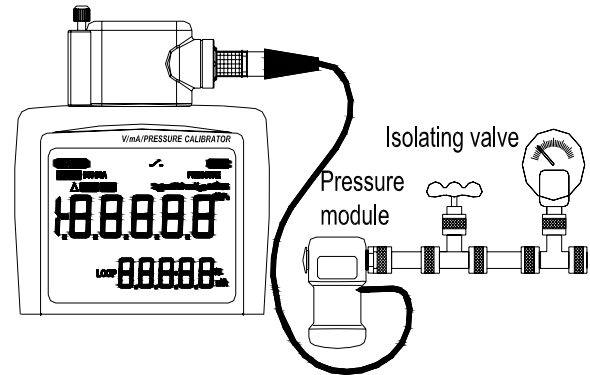

Figure 12 Measuring pressure
Step 1: Connect the pressure module and calibrator as shown in Figure 12. The screw of the pressure module pipe is compatible to the 1/4 inch NPT connector. If you have other requirement, contact the vendor.